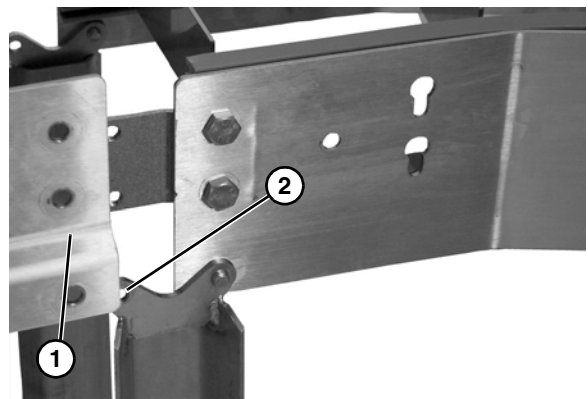

Figure 8
4. Connect the straight section (Figure 8, item 1) making sure that the stand mounting hole (Figure 8, item 2) is to the inside of the straight section on both sides.